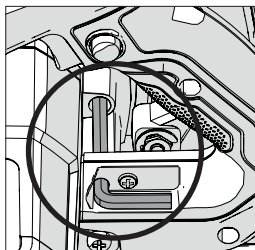

Fig. 1
- Locate the supplied Blade Change Hex Key which is housed in the onboard storage facility (similarly positioned on all machines). (Fig. 1)